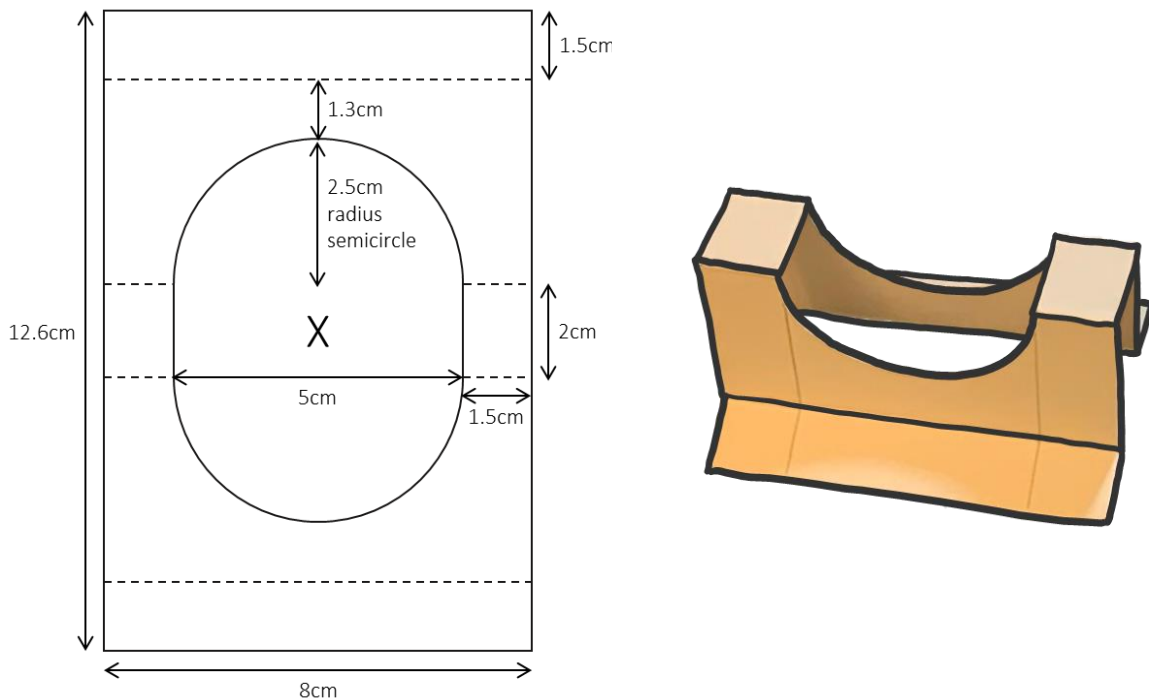

Fig. 4. Diagram and measurement for the support (left) and making of it (right).
4. To make support of the round scroll, cut 14 pieces of 20 pt. cardstock (fig. 4). Used a circle cutter to cut the semi-circles.